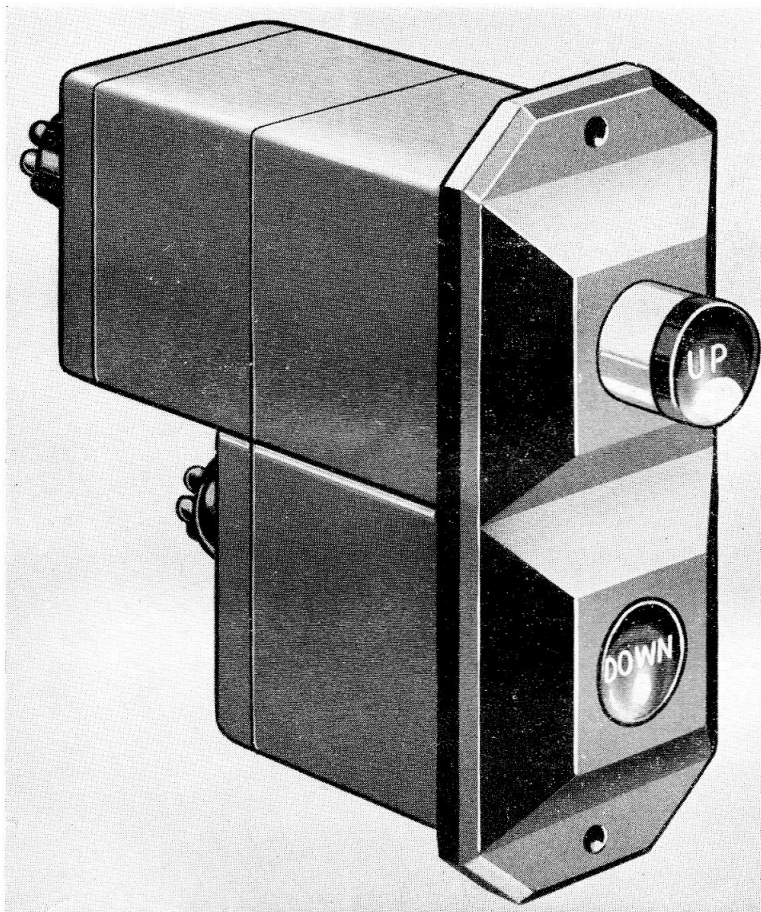

Fig. 1. General view of 1212Y, Mk. 5 switch
5. The description of the switches in this chapter and the general views in Fig. 1 and 2 will, in general, cover the 1210Y switch range.